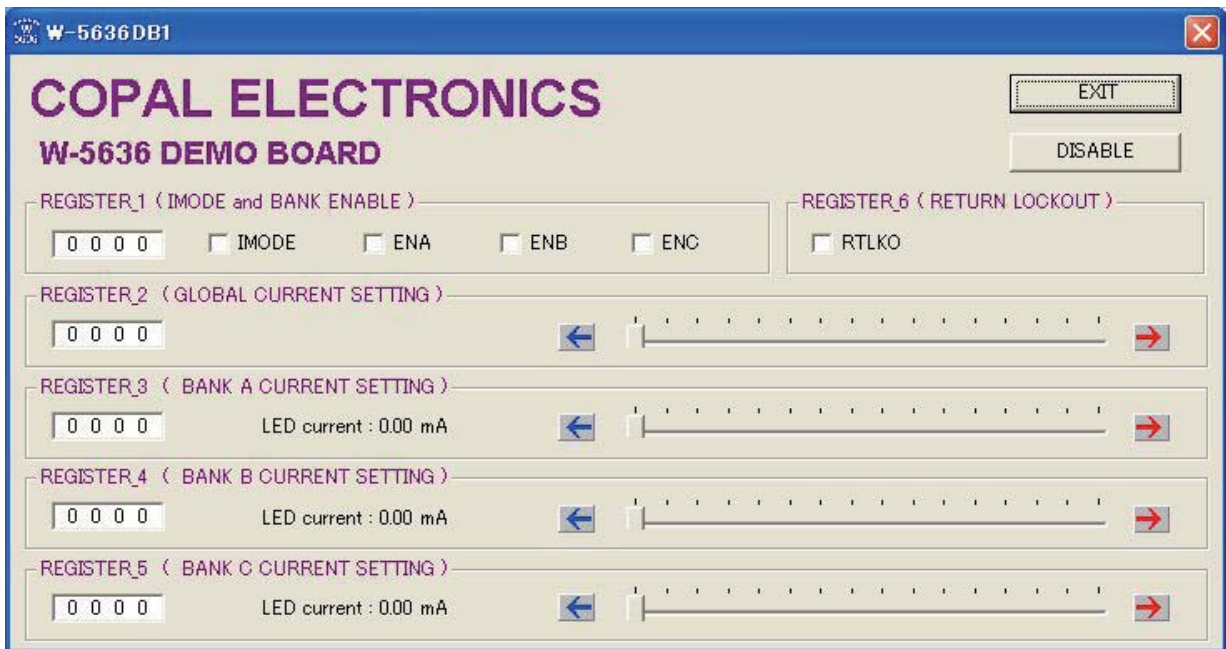

Figure 3. W-5636 Board Software Interface Window (Start Window)
- d) The W-5636 Evaluation Board user interface window opens (Figure 3). When the program starts, the W-5636 will be in the enabled state (EN/SET input is set high). The user may choose to disable the device by pressing the ENABLE/DISABLE button which has a toggle function.